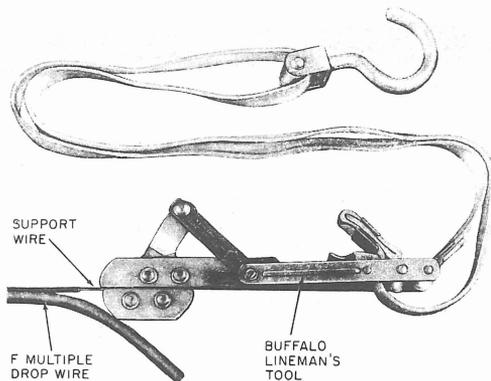

Fig. 10—Buffalo Lineman's Tool, Catalog No. 1
- (1) Pay out multiple pair ASW at building-to-pole spans as described for drop wire in Section 462-400-205.
- (2) Using a Buffalo lineman's tool, catalog No. 1 (Fig. 10), tension the wire to the required sag. See Part 5 for stringing sags.